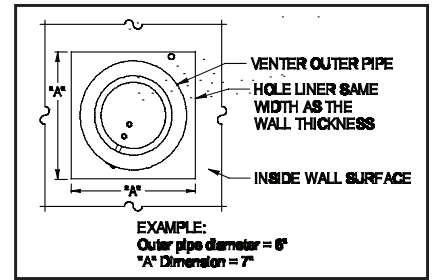
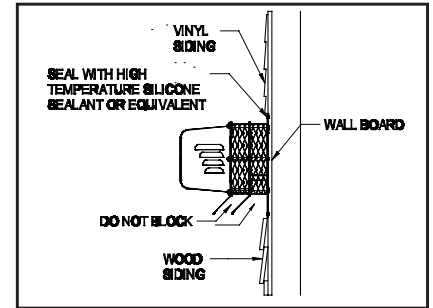
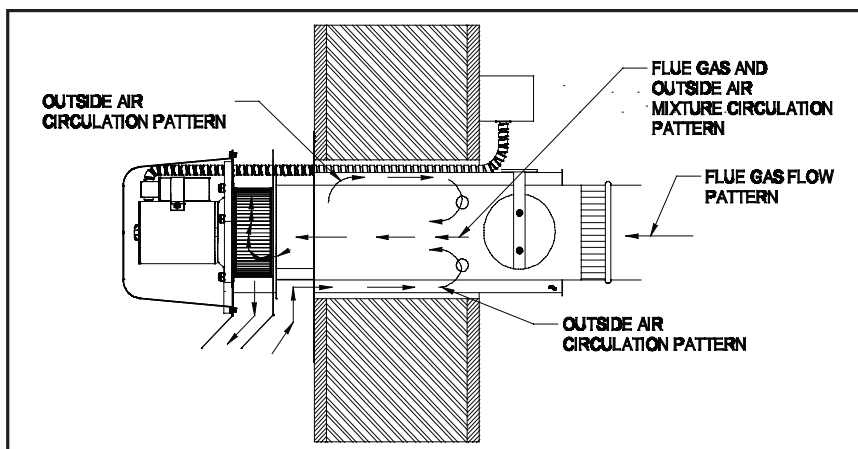

Figure 3
Figure 4
Figure 7
- After determining the location of the venting system termination point (See Diagram A), cut a square hole through the wall 1" larger than the outer pipe diameter of the power venter. Mount the power venter through the wall, keeping the outer pipe centered in the hole. (See Figure 3) Fasten the power venter to the outside wall with appropriate fasteners. Seal the edges of the power venter base plate to the wall with a high temperature silicone sealant. DO NOT enclose the spaced plates on the power venter body. This will result in reduced cooling of the power venter body. Galvanized metal sheets may be installed over surrounding building surfaces to protect building materials from degradation by flue gases. Brick or tile may be placed on the ground below the power venter to protect the soil and vegetation from the effects of heated exhaust air. The power venter should be placed so that vegetation and other objects are not in direct contact with the power venter or blocking the outlet. Snow should be cleared from the outlet area as needed. Wood or vinyl siding should be cut so that the unit mounts directly on the wall board to provide a stable support. If the siding is greater than 1/2" thick use a spacer plate or board behind the power venter mounting plate. (See Figure 4)
NOTE: If mounting the power venter through a combustible wall material and the flue gas temperature is above 400°F at the power venter inlet, line the square hole with a piece of corrosion resistant sheet metal or non-combustible material. The liner piece should be the same width as the wall section. (See Figure 3) The power venter has maximum flue gas temperature of 550°F at the power venter inlet. Figure 7 shows how the airflow pattern through an SWG reduces the required clearances to combustibles. For installation in wall thickness over 8", use an SWG Series Through Wall Extension Kit, Model PEK.